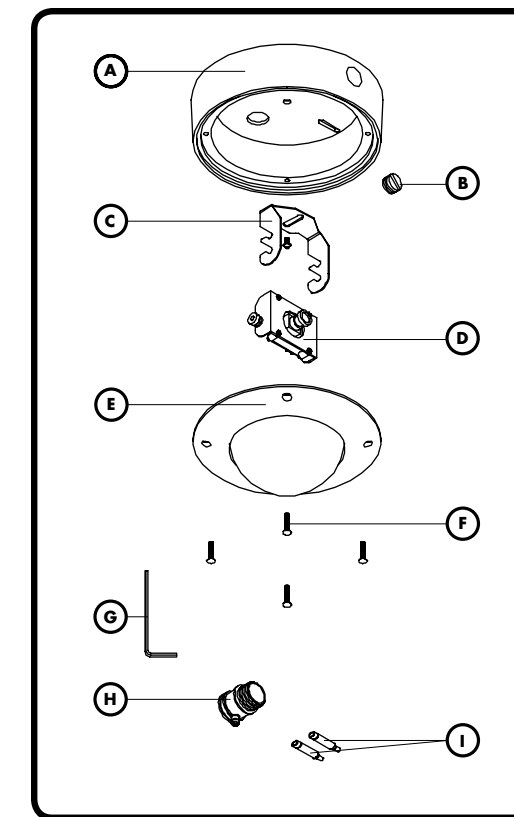

FIGURE 1
COMPONENT LIST [FIGURE 1]
1. Carefully unpack box and verify that all components listed are included [FIGURE 1].